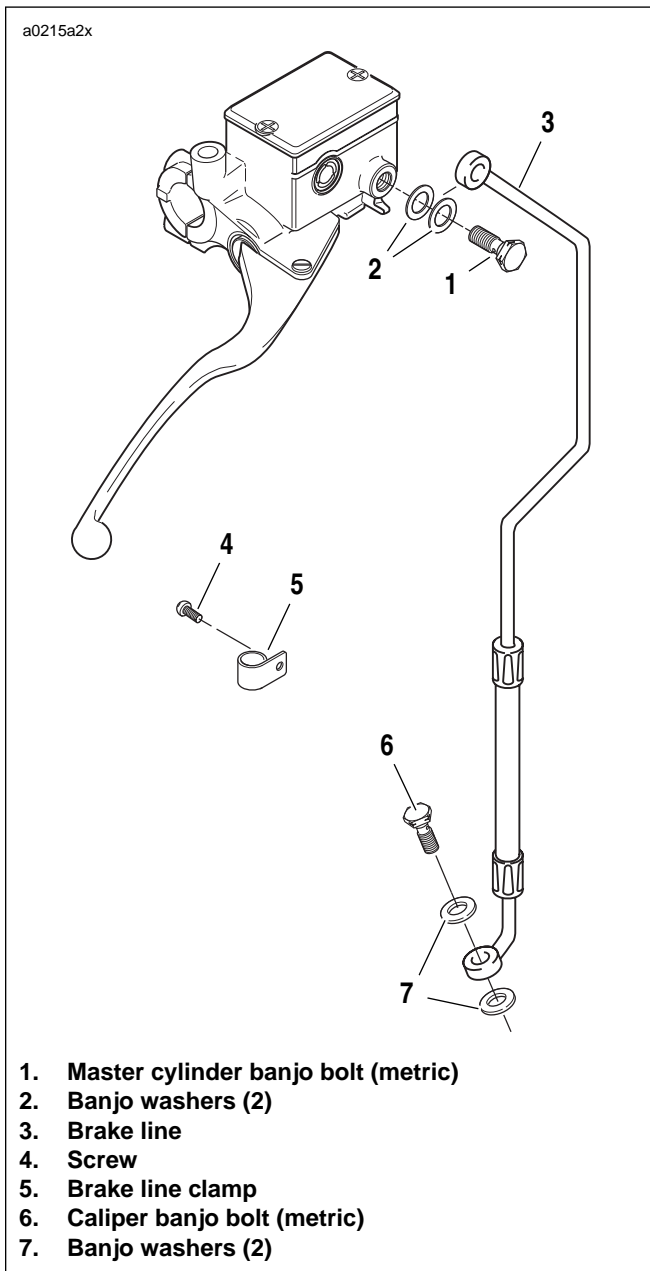

Figure 2-45. Front Brake Line
2. See Figure 2-45. Remove screw (4) to detach brake line clamp (5) from right side of lower triple clamp. Remove brake line from wireform.
3. Remove master cylinder banjo bolt (1) (metric) and two banjo washers (2) to disconnect brake line from master cylinder. Discard banjo washers.
4. Remove caliper banjo bolt (6) (metric) and two banjo washers (7) to disconnect brake line from caliper. Discard banjo washers.
1. See Figure 2-45. Connect brake line to master cylinder using two **new** banjo washers (2) and banjo bolt (1) (metric). Loosely install bolt into master cylinder.
2. From the master cylinder, the brake line runs downward in front of the right handlebar, where it turns inboard at the upper triple clamp. Loosely install clamp (5) with screw (4) to attach front brake line to right side of lower triple clamp. Position brake line in wireform.
3. Connect brake line to caliper using two **new** banjo washers (7) and banjo bolt (6) (metric). Tighten banjo bolt (6) to 16-20 ft-lbs (22-27 Nm).
4. Tighten clamp screw (4) on lower triple clamp to 36-60 **in-lbs** (4-7 Nm).
5. Tighten master cylinder banjo bolt (1) (metric) to 16-20 ft-lbs (22-27 Nm).